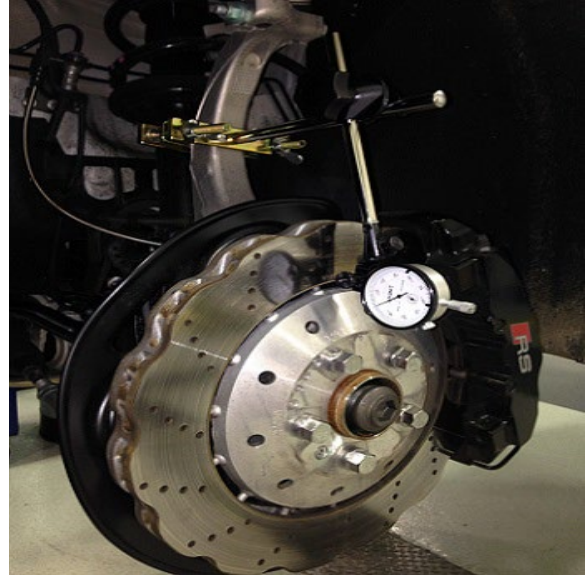

Figure 11. Example of the run-out measurement tool VAS6079/1 properly secured to a solid suspension component.
- VAS6079/1 (or similar measurement tool) is securely attached to the vehicle (Figure 11).